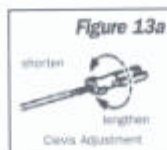

Figure 13a
- Set the transmitter trim adjustment levers (located beside the stick assemblies) to their center positions. Turn on the transmitter, then the receiver. **DO NOT PUSH THE RED START BUTTON AT THIS TIME!** Adjust the control links (clevis) at the end of the elevator and rudder pushrod so that when inserted into the control horns, both the rudder and elevator control surfaces are level (neutral). See **Figures 13A, 13B and 13C**.